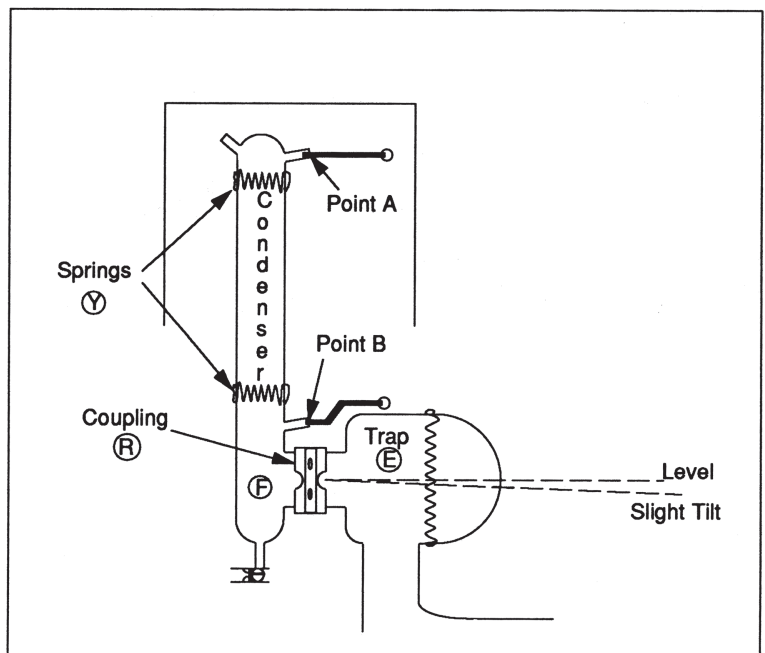

Figure 4
Refer to Figure 4 for the following steps:
2. Check orientation of trap **E**. If it is not level or tilted back toward the boiler as shown in Figure 4, move the condenser **F** up in its bracket. This will tilt trap as shown in Figure 4.
- A. Remove tape from 3/8" I.D. vinyl hose and connect to upper right condenser outlet at Point **A** (Figure 4).
- B. Remove tape from 3/8" I.D. vinyl hose and connect to lower right condenser outlet at Point **B** (Figure 4).